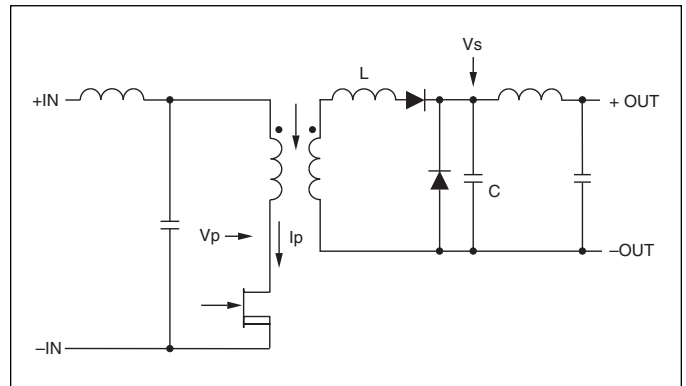

Figure 9–6 — Basic zero-current-switching converter topology (VI-200 / VI-J00)
VI-200s and VI-J00s both use the same topology, so their operation is very similar. These products are zero-current-switching converters — i.e., the current is zero when the main switch is turned on or off. While the switch is on, the current through the switch or the primary of the transformer is a half-wave rectified sine wave. Similar in operation to a resonant converter, these products are commonly referred to as quasi-resonant converters. The LC resonant frequency is fixed so the on-time of the switch is about 500 ns. When the switch turns on, energy builds up in the leakage inductance of the transformer (L) and then "transferred" into the capacitor on the secondary side of the module. (C, Figure 9–6) The energy processed in each pulse is fixed, and is ultimately the energy stored in this capacitor, $1/2 CV^2$. Since the energy in every pulse is fixed, the repetition rate of the pulse train is varied as a function of load to regulate the output voltage. Maximum repetition rate occurs at minimum line, full load and is approximately twice the LC time period or 1 μ s. If the load drops by 50%, then the repetition rate is approximately one-half of maximum (since the energy in every pulse is fixed). Therefore the pulse repetition rate varies linearly with load, to a first order approximation.